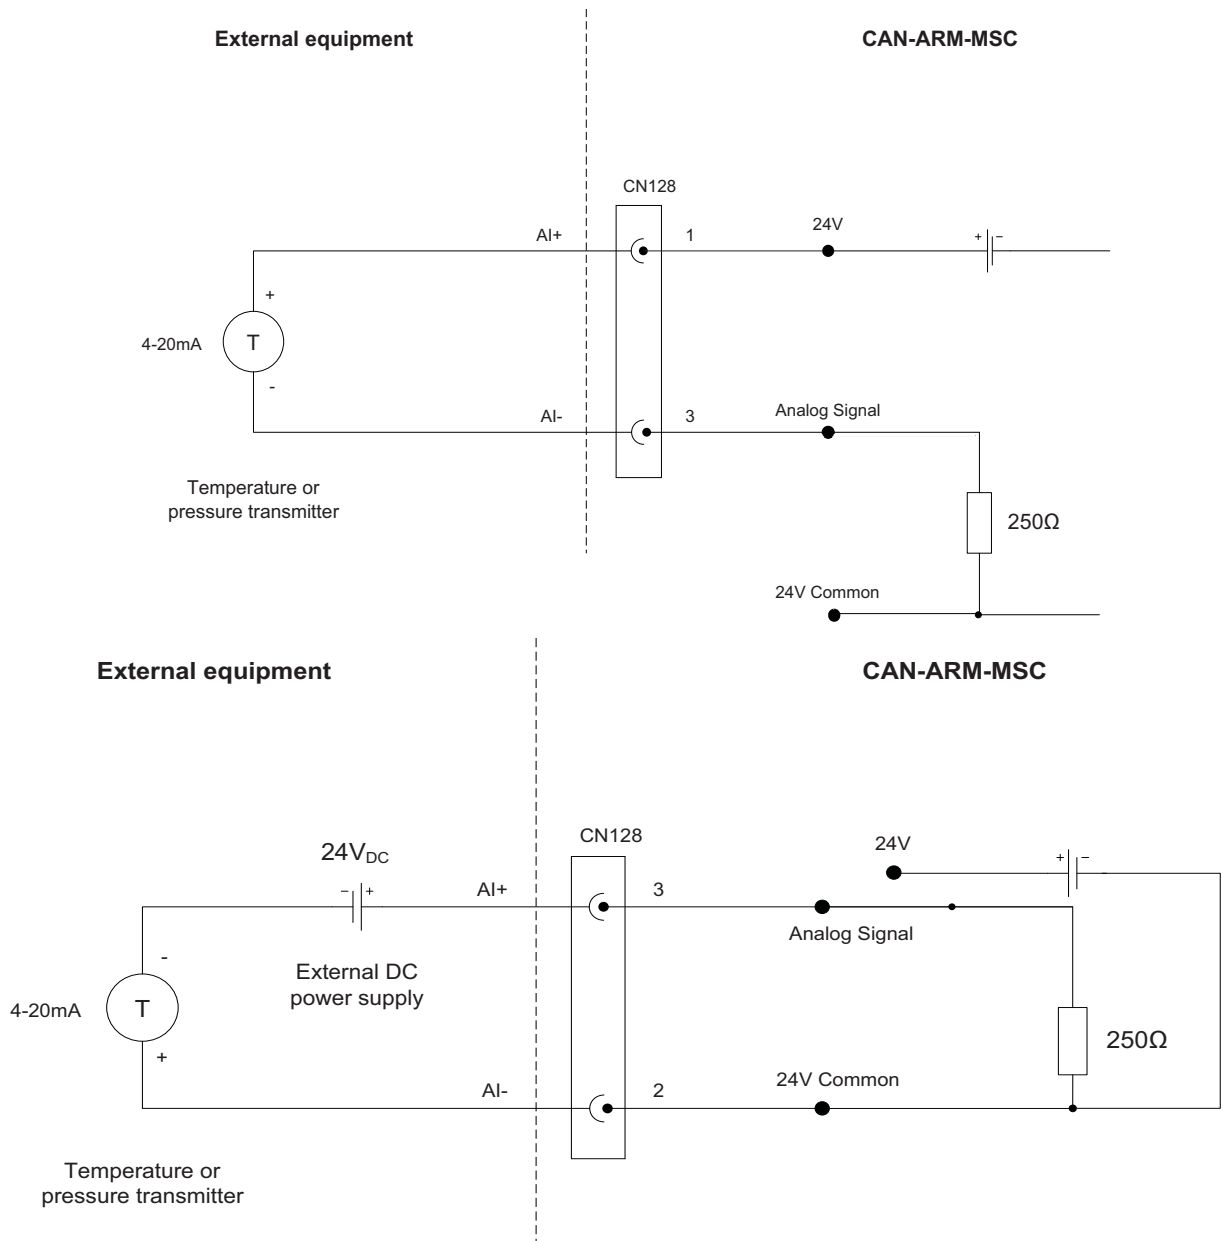

FIGURE 3-23 Analog Input connections - Active mode (top) and Passive mode (bottom)
The Analog Input (AI) supports 2-wire 4-20 mA, and can be configured by a switch to operate in active mode or passive mode. See FIGURE 3-23.